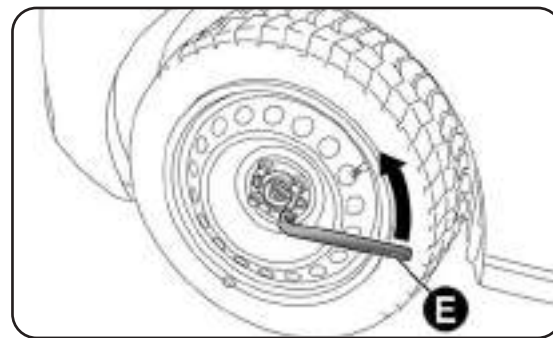

fig. 11
- loosen the fixing bolts for the wheel to be changed by about one turn using the spanner provided E - fig. 11;